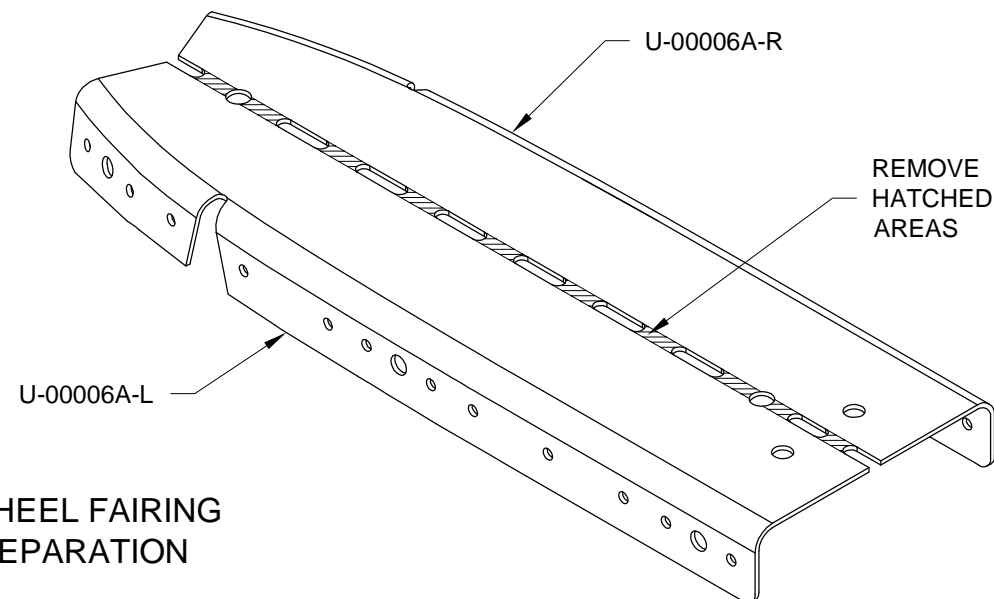

FIGURE 2: WHEEL FAIRING BRACKET SEPARATION
Step 4: Remove hatched area from U-00006A Wheel Fairing Bracket to create U-00006A-L and U-00006A-R Wheel Fairing Brackets as shown in Figure 2.